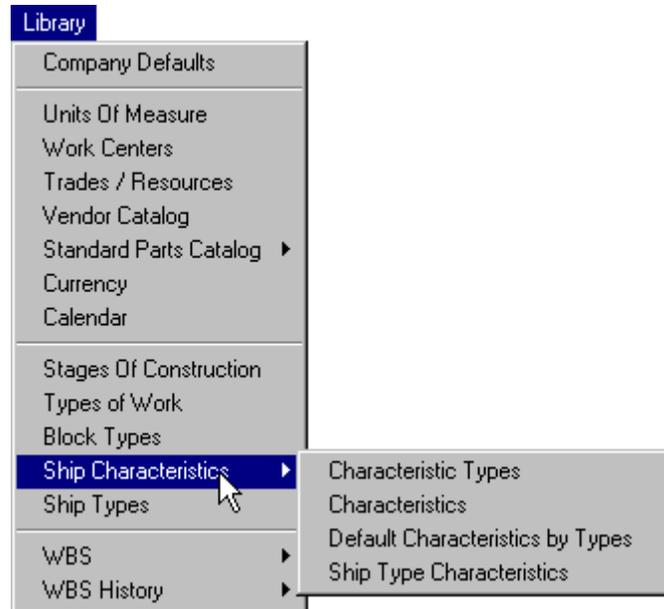

Figure 3-23: Ship Characteristics Menu
- **Ship Characteristics** (Figure 3-23) provides access to the types of characteristics, the characteristics library, the list of standard characteristics (for example, LOA, displacement, etc.), and groups of characteristics germane to specific ship types.